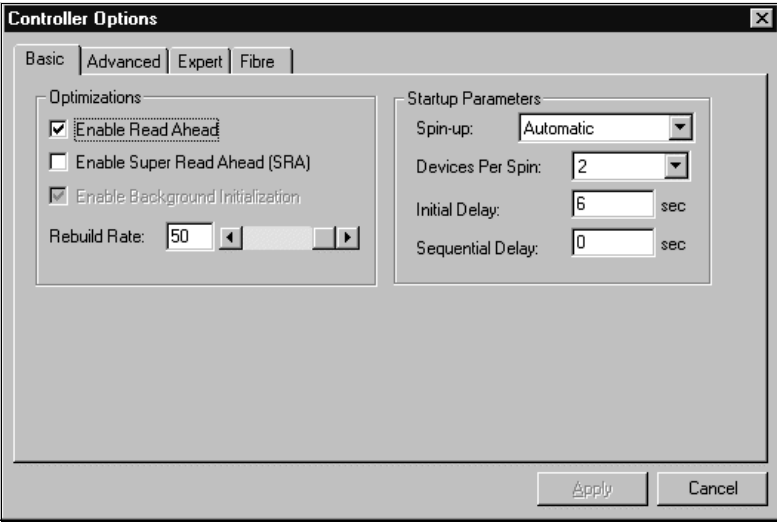

Figure 4: SAM Basic Controller Options Dialog Box (simplex)
- Open the *Basic* dialog box and set the parameters as shown in figure 4.